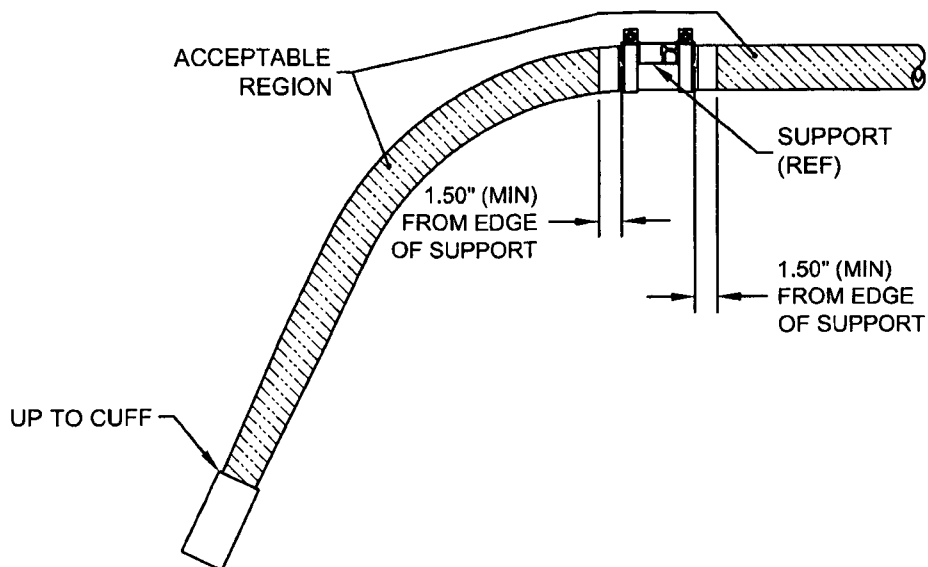
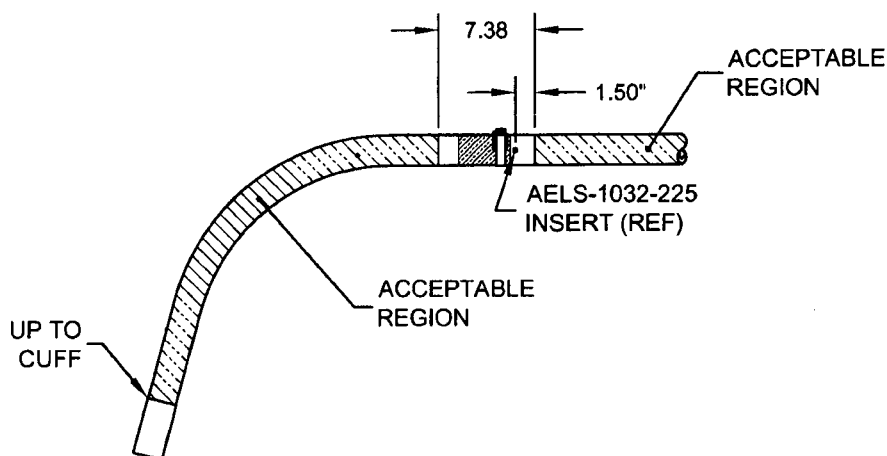

FIGURE 1 - ACCEPTABLE REGIONS TO BE COATED WITH ARMOR SHIELD
FIGURE 2 - ACCEPTABLE REGIONS TO BE COATED WITH ARMOR SHIELD
To further protect Dart crosstubes from mechanical damage in service, they may be treated with "Armor Shield" surface treatment. To designate crosstubes with 'Armor Shield' add 'A' to the Part Number. For example, D206-667-101A is a D206-667-101 crosstube coated with Armor Shield. The Change Number of Dart crosstubes with "Armor Shield" is affected as per above table. It is acceptable to apply the Armor Shield in regions shown in Figure 1 or Figure 2 only. It is **NOT** acceptable to apply Armor Shield in the cuff and support/clamp regions.
- 1.3 Mask areas around supports and cuffs per Figure 1 or Figure 2 (D350-748-101/-201 only). Abrade paint finish in areas requiring protection using 800 grit sandpaper. Ensure the surface is de-glossed.
(SEE FIGURE 2 FOR D350-748-101/-201 CROSSTUBES)